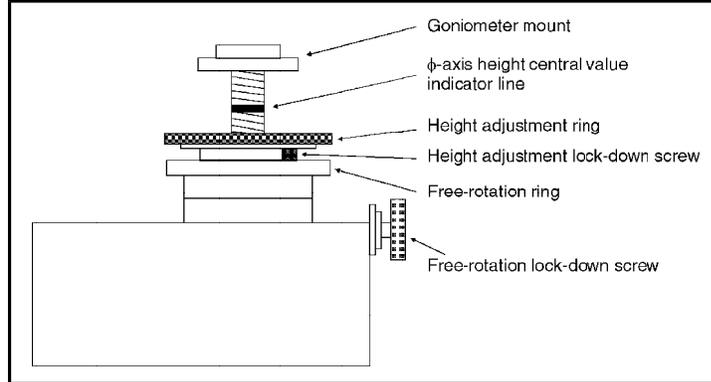

Figure 2-15. ϕ -axis lock-down screw.
- 1) Release the ϕ -axis so it rotates freely by turning the free-rotation lock-down screw, shown in Figure 2-15.